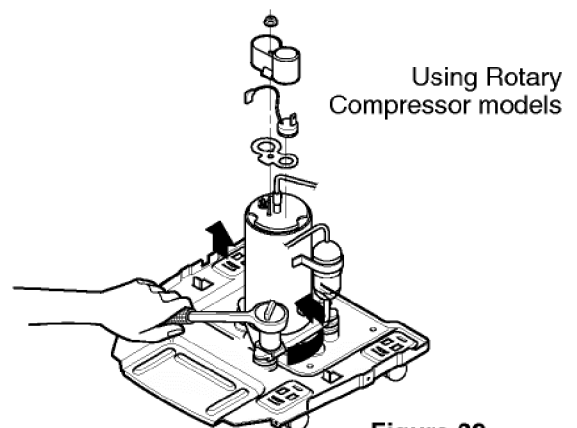

Figure 30
3. Remove the nuts and washers which fasten the compressor. (See Figure 30)
4. Remove the compressor. (See Figure 30)